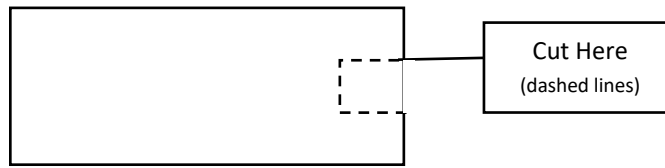

Figure 2 Cutting the cardboard pieces
Step 1 – Choose what length cardboard to use (9", 12", 15", 18"). Cut a rectangular notch (about 1 1/2" x 2") on the short side of each piece of cardboard so that the notches overlap (Figure 2).
Step 2 – Place the two pieces of cardboard on top of each other and tape them together to make a double thick piece of cardboard. Make sure the notches line up as in Figure 2.